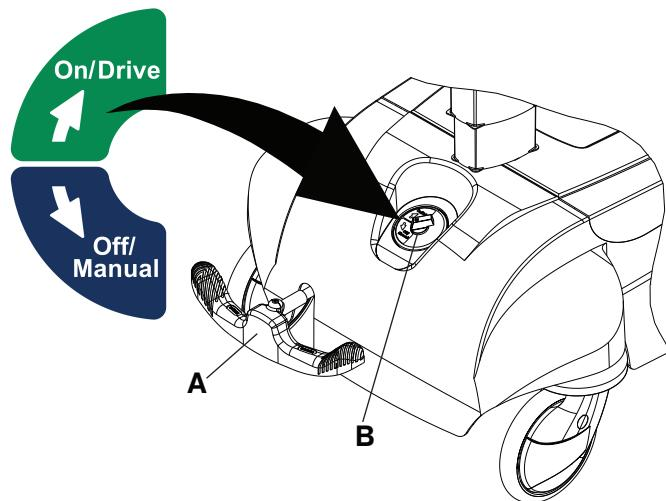

Figure 17 – On/Drive-Off/Manual switch
- Push down on the steer (green) side of the brake/steer pedal (A) to put the brake/steer pedal in the steer position (Figure 17).